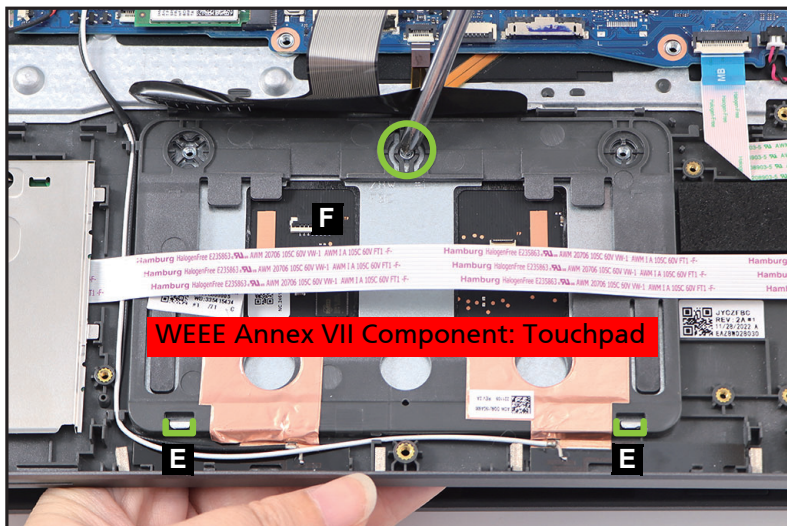

Figure 1-27. Touchpad Module Removal
6. Using the screwdriver, push the screw sleeve (marked with green circle) firmly to release it from the top assembly (Figure 1-27).
7. Slide the touchpad module slightly to disengage it from the bottom latches (E), and then remove the touchpad module (F) from the top assembly (Figure 1-27).